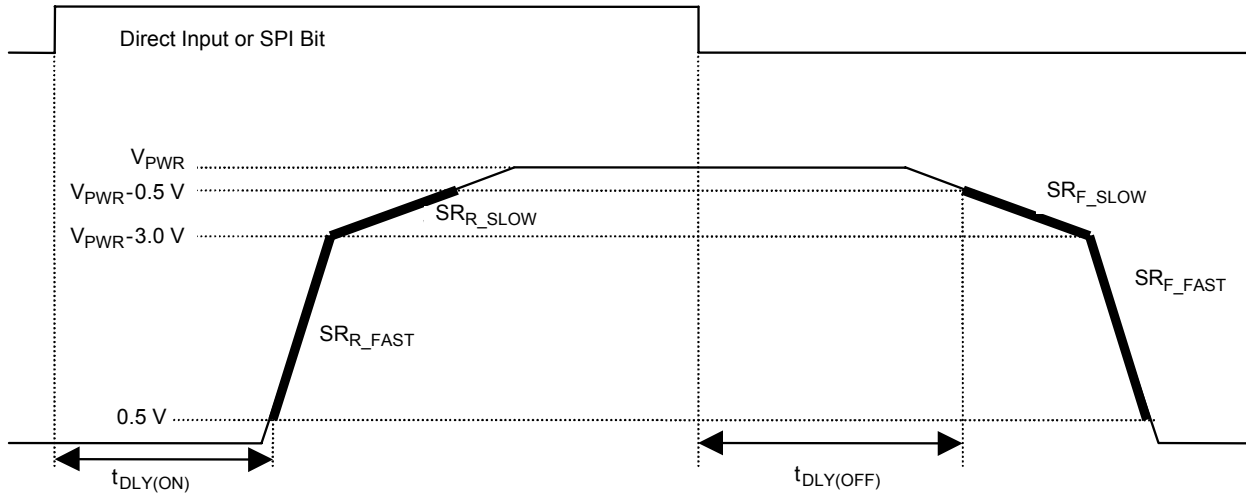

Figure 2. Output Slew Rates and Time Delays, High Side
27. High-side output rise and fall fast slew rates measured across a 5.0 Ω resistive load at high-side output = 0.5 V to V_{PWR} -3.0 V (see Figure 2, page 18). These parameters are guaranteed by process monitoring.
28. High-side output rise and fall slow slew rates measured across a 5.0 Ω resistive load at high-side output = 0.5 V to V_{PWR} -3.0 V (see Figure 2, page 18). These parameters are guaranteed by process monitoring.
29. High-side output turn-ON delay time measured from 50% of the rising IHS to 0.5 V of output OFF with $R_L = 27\ \Omega$ resistive load (see Figure 2, page 18).
30. High-side output turn-OFF delay time measured from 50% of the falling IHS to V_{PWR} -2.0 V of the output OFF with $R_L = 27\ \Omega$ resistive load (see Figure 2, page 18).